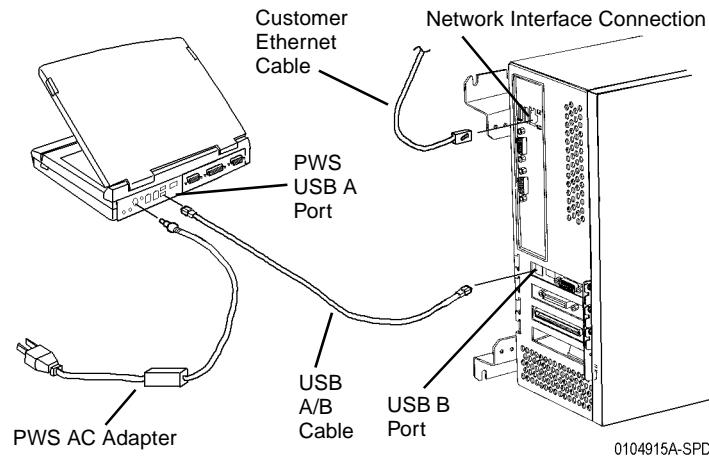

Figure 1 Connecting the PWS
1. Connect the Portable Work Station (PWS) to the machine (Figure 1).